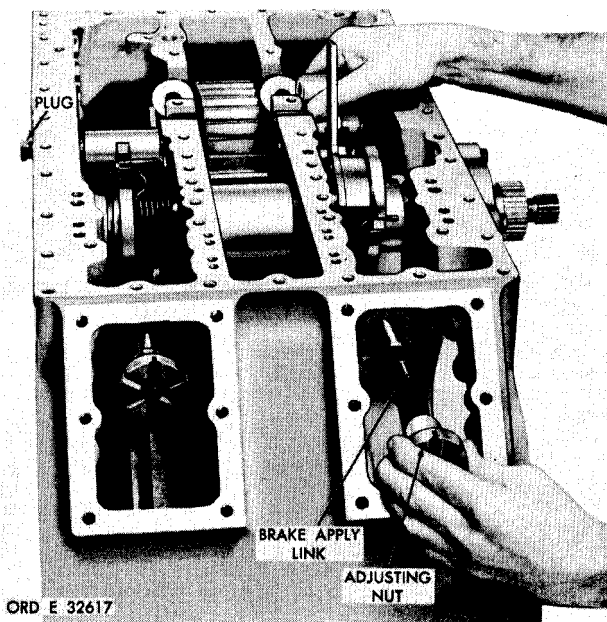

Figure 198. Installing right-brake adjusting nut
xc2 ag. Install the left-follower link shaft plug (fig. 198).
ah. Position the rear housing upright on assembly table. Assemble items 58 through 71 (fig. 379, fold-out 8) and install as in fig. 198. Install brake, adjusting nut on the right-brake apply link, approximately 1/2 inch (fig. 198).